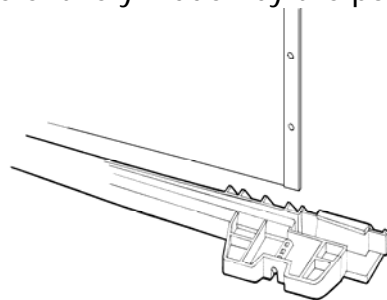

Figure 11.2
- Insert the wall, starting in the middle of a bottom plate. Guide the wall into the wall channel until both ends meet. (figure 11.2 and 11.3 for jointed plate and figure 11.4 and 11.5 for separated foot plate) Respecting this procedure, the pool wall joint will be entirely hidden by the post.